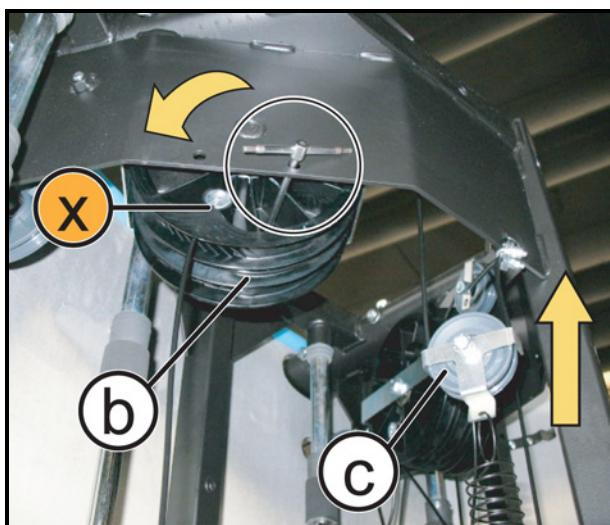

Figure 6.4-5
16. Remove the Allen T wrench used at the point (**3**) of Figure 6.4-5. The cam will rotate about 3 turns moved by the spring previously loaded.
17. Rotate the cam **3 more turns COUNTERCLOCKWISE** (the same in which the cam has moved in the previous step) then lock it again using an Allen T wrench as done before in Figure 6.4-5. The spring group pulley (**c**) will raise close to the upper frame.